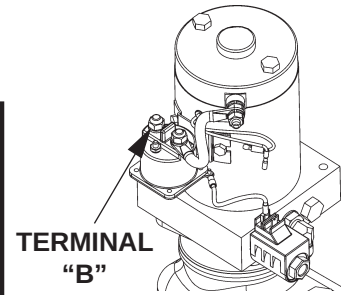

FIG. 77-1
1. Use voltmeter to verify that power is being supplied to Solenoid Terminal "B". Recharge the battery if voltmeter indicates less than 12.6 Volts (**FIG. 77-1**).